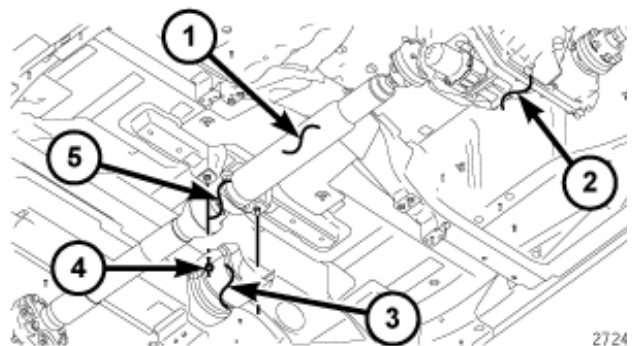

Figure 53 – Heat Shield
55. Install the center bearing heat shield (3) (Figure 53).